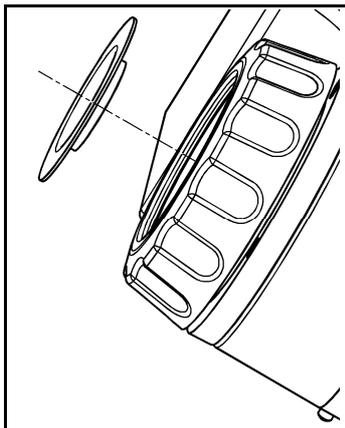

Fig. 13: Aligning the seal
3. Remove old seal (see Fig. 13).
The lip of the seal must be aligned inward (see Fig. 13).